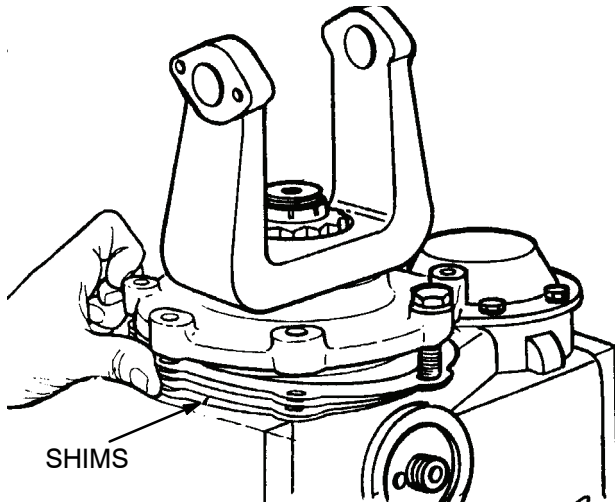

Figure 98.
- (4) Add up the four measurements and determine the average gap between the cage and the carrier. Add 0.005 inch (0.13 mm) to the average gap measurement to determine the size of the shim pack between the cage and the carrier.
- (5) Use at least three shims to build a shim pack. Put the thickest shims in the middle of the shim pack.
- (6) Remove the capscrews that fasten the input bearing cage to the carrier.
- (7) Install the shim pack according to the following procedure:
- (b) Install the shim pack under the bearing cage. Make sure that the hole pattern of the shim pack matches the hole pattern of the cage. Figure 98.